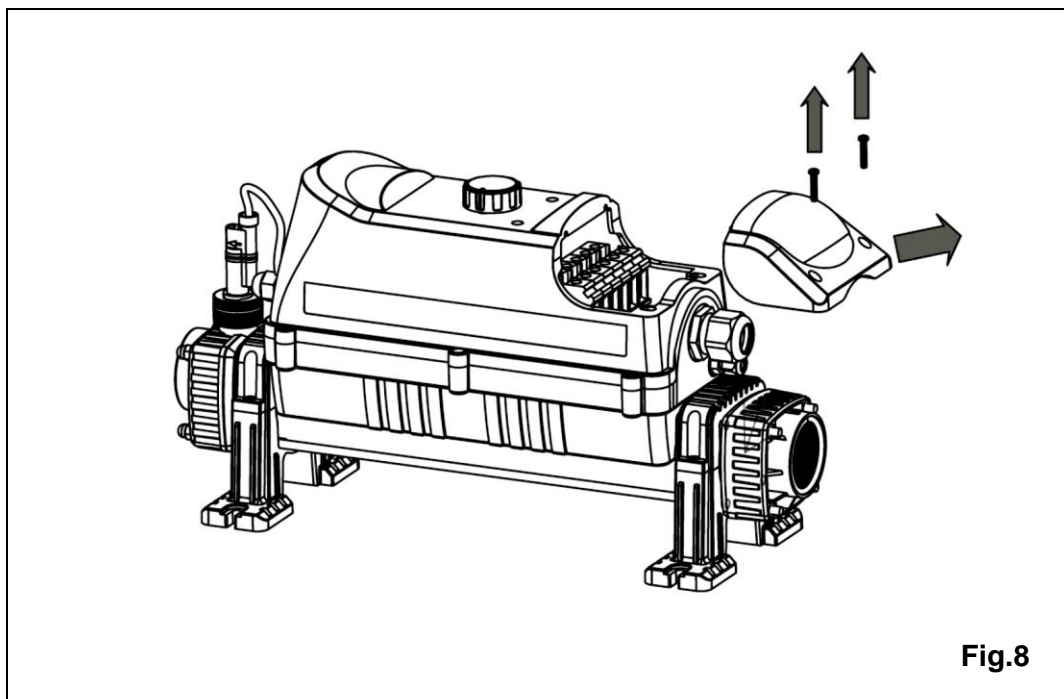

Fig.8
- To connect the power supply cable, remove access cover (see Fig. 8).